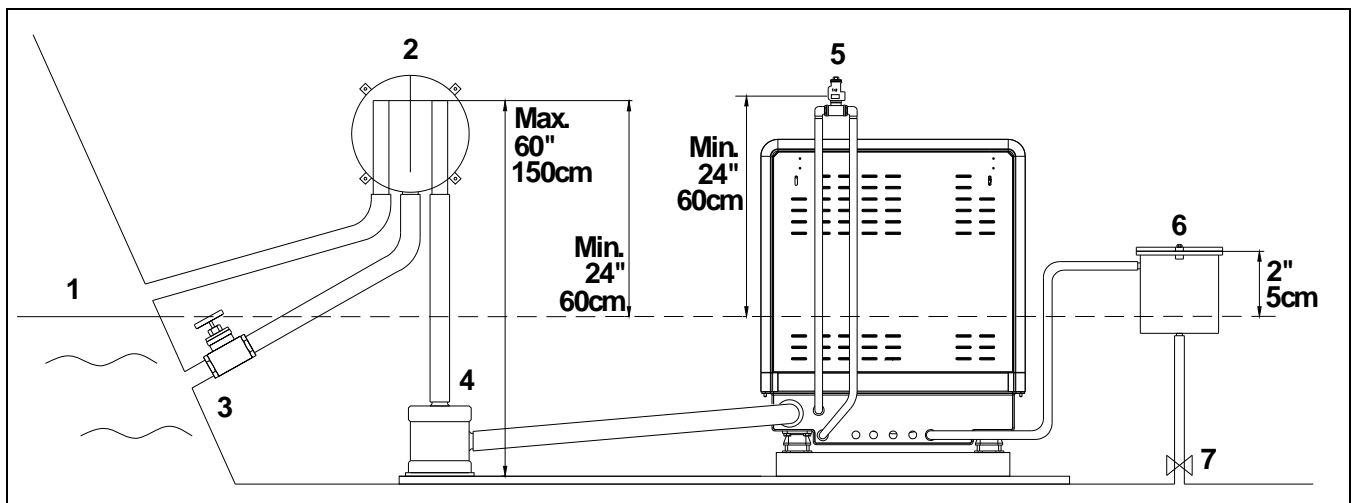

Fig. 6. Internal cooling system
Use an appropriate water strainer with connections of 25.4 mm (1"). Install the water strainer in a well accessible position, 5 cm above the waterline (see fig. 6, ref. 6).
Extend the water hose of the by-pass 60 cm above waterline and install an air vent. Ideally, the air vent should be mounted above the yacht keel center line (i.e. to minimize the influence of swaying on the water intake). See figure 6, ref. 5.